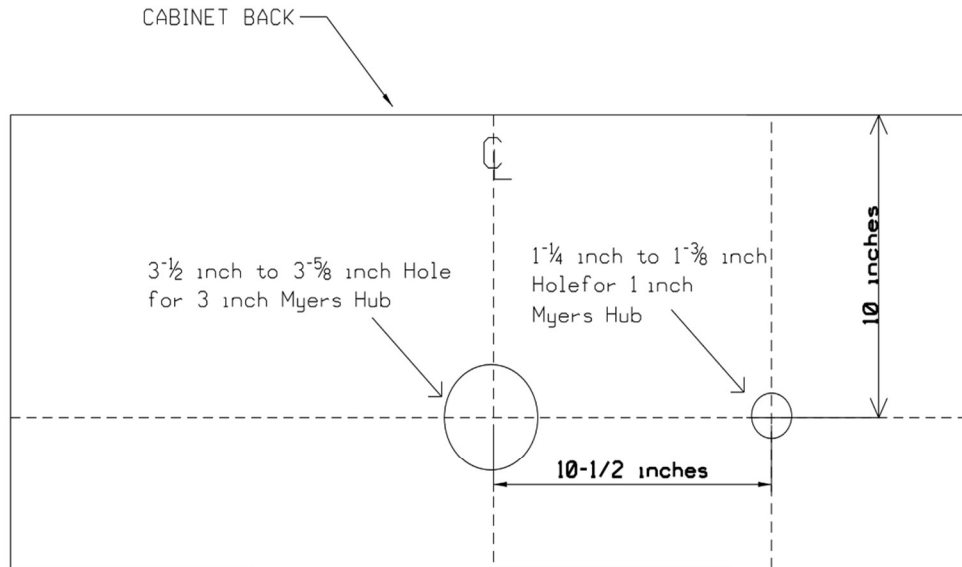
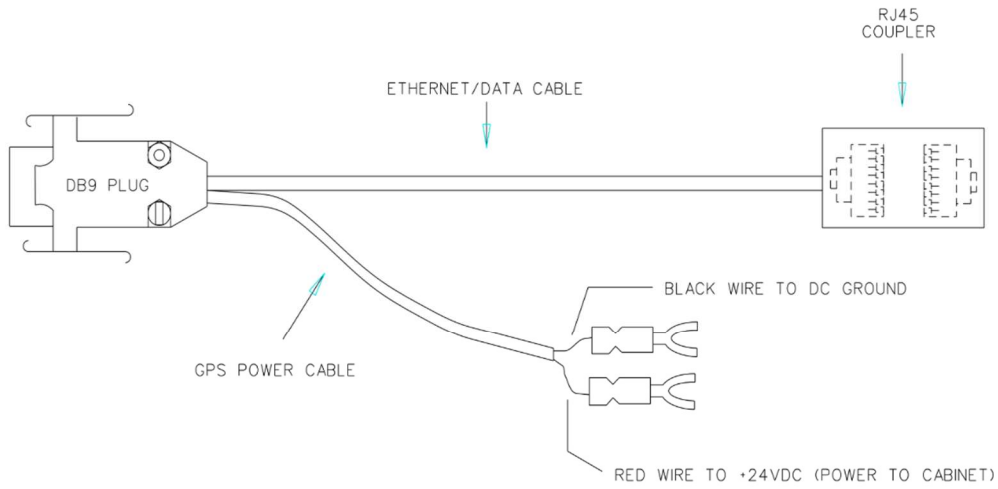

FIGURE 2: GPS INTERCONNECTION CABLE ASSEMBLY
FIGURE 3: GPS POWER/DATA CABLE TO DB9 MALE PLUG PIN CONFIGURATION
- One (1) GPS device, Garmin Model No. GPS16x-HVS, or equal.
- One (1) Interconnection Cable Assembly per **Figure 2** to include:
- One (1) Ethernet/Data Cable with a **male** DB9 pin connector and an RJ45 connector
- DB9 pin configuration shall be per **Figure 3**.
- One (1) RJ45 Coupler
- One (1) 22 gauge, 2 conductor, shielded power cable that includes one (1) red power wire with and one (1) black ground wire; both wires must have prongs